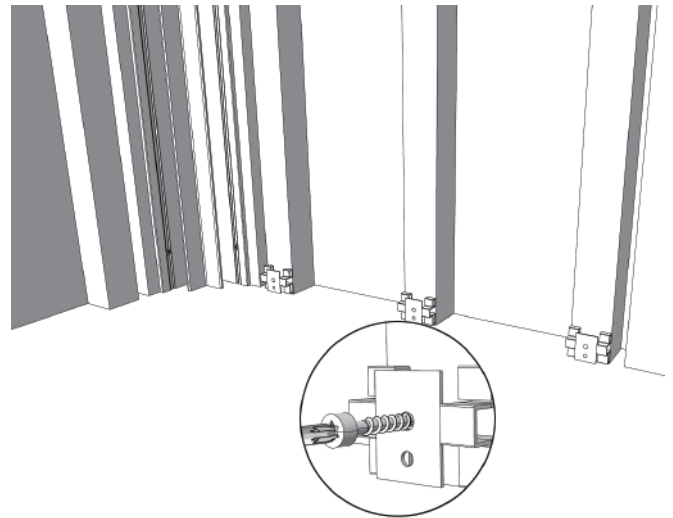

Fig3
1. Fix wall cladding fittings on each joist. As shown in Figure 3: